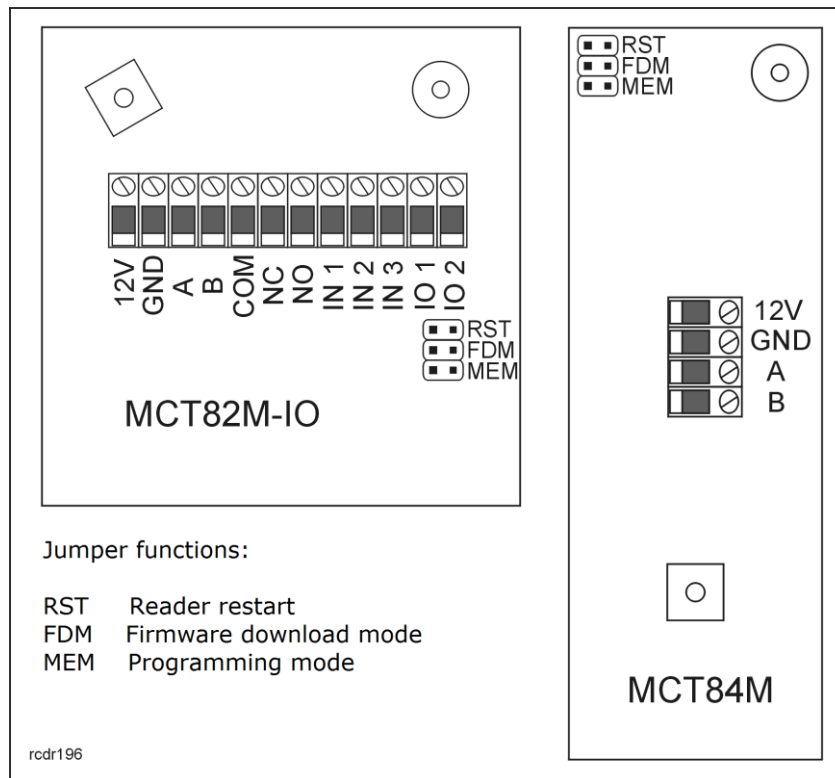

Fig. 3 Connection terminals and programming jumpers
4. Connection wires should go along the hole in base of reader and plug to terminals according to (Fig. 3).